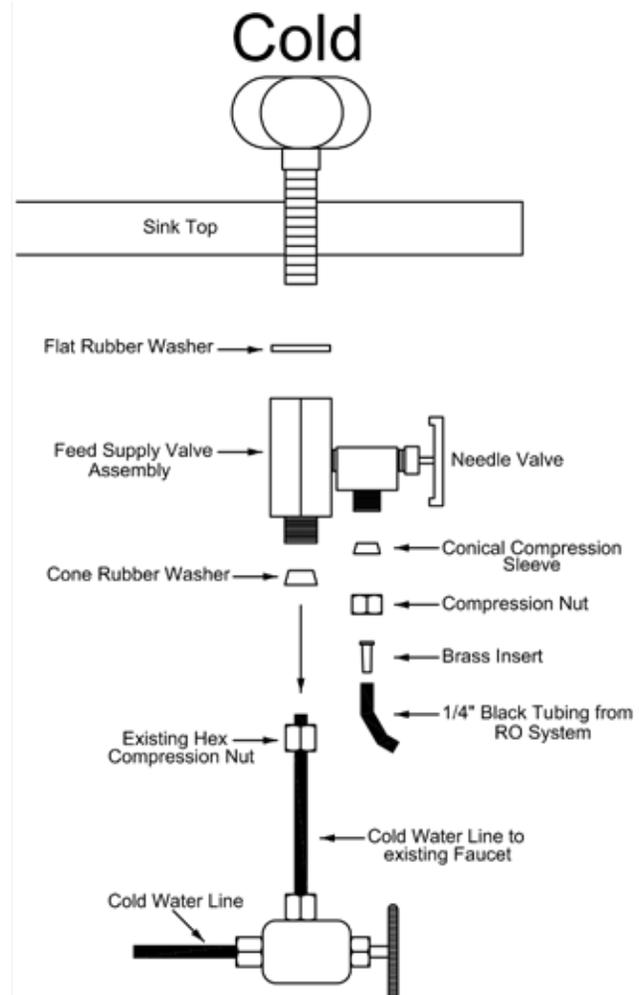

FIGURE 1: FEED SUPPLY INSTALLATION
STEP 4. Connect Black line from RO system as shown in Fig 1.